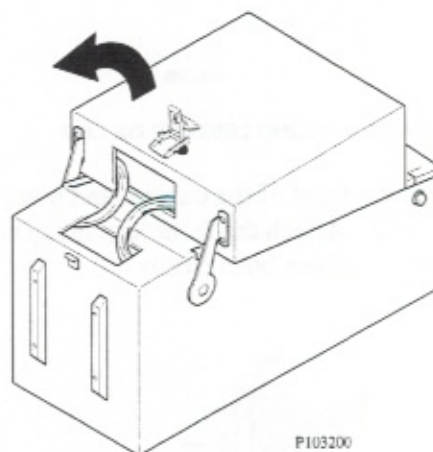

**FIGURE 2: REMOVING GAME AND PARTS BOX**
2) Two or more people should lay the carton on its side. Slide game and packing materials out from carton (see Figure 2). Open the parts box.